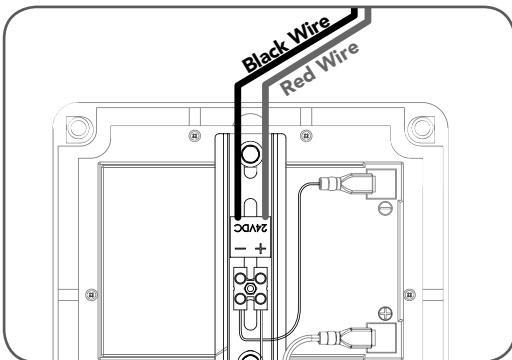

Fig 68
3. Connect the **red wire** to the Battery Box's "+" terminal, and the **black wire** to the "-" terminal (**Fig. 68**).